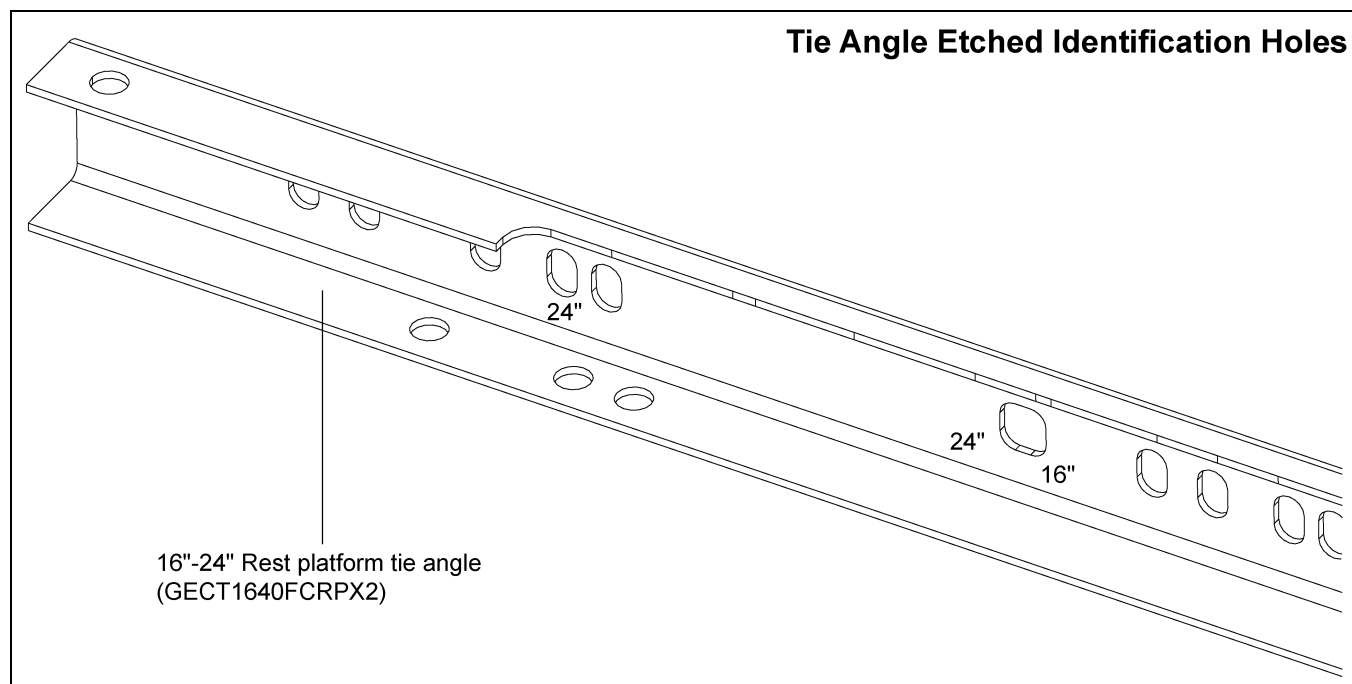

Figure 7A Tie Angle with Etched Numbers
1. Install rest platform tie angles to the lower trunking on both the ladder side and non-ladder side of the trunking. Use 1/2" x 1" bolts through the bolt holes indicated for the bucket elevator size being installed. *(See Figure 7A.)*